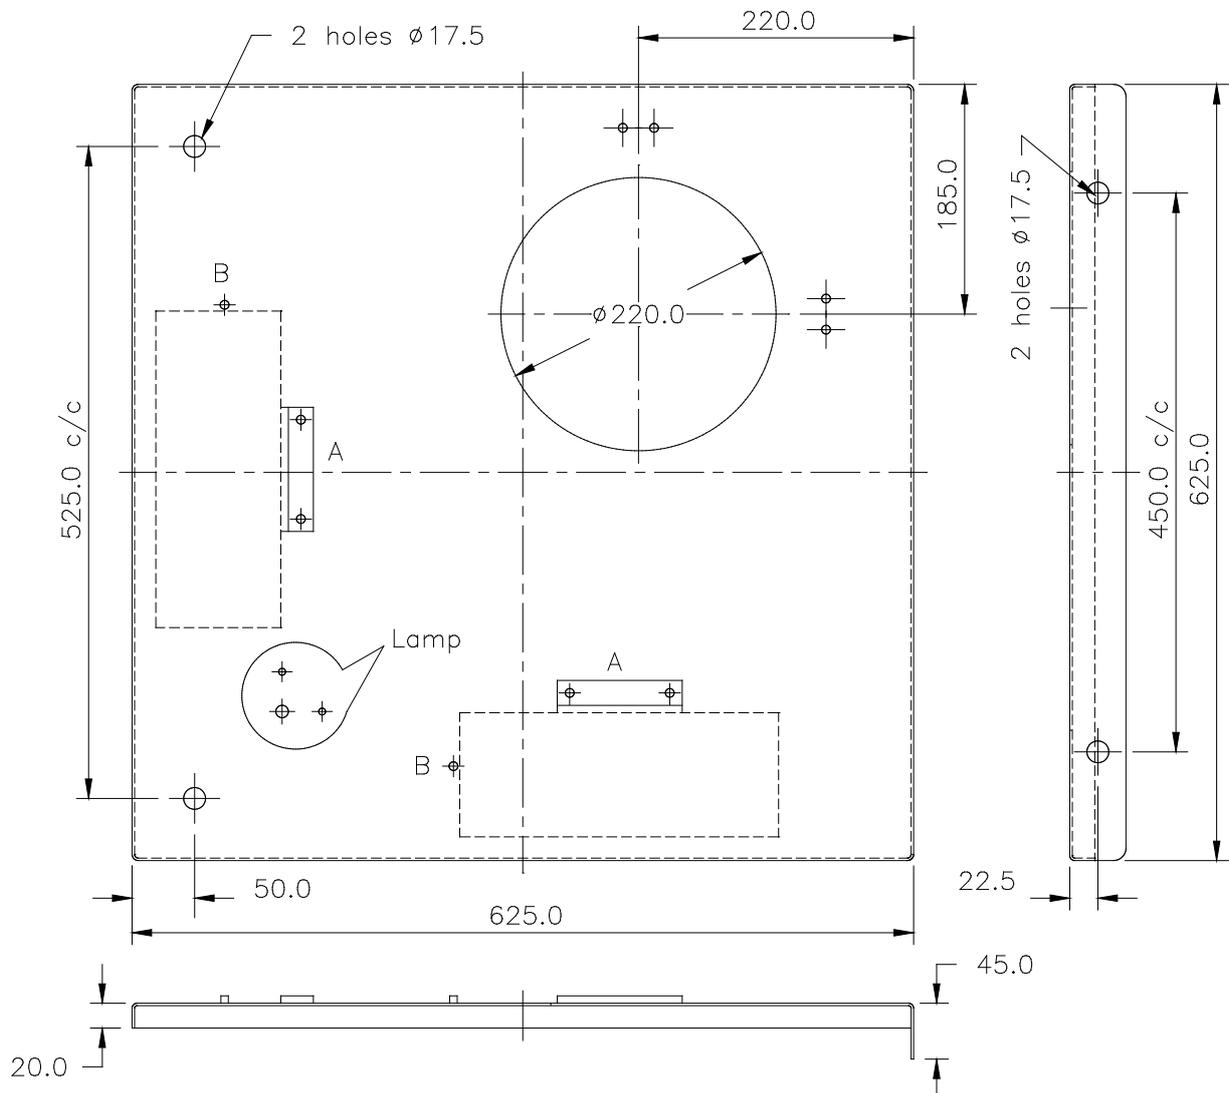

Figure 2-2
Figure 2-1 provides cross sectional layout of the normal plumb line. Figure 2-2 contains details of fixing observation table and mounting telescopes and reference plumbs.
The traveling telescopes are packed in a specially designed case. Position the two telescopes on the observation table such that the front edge butts with the telescope reference plate (A) and the left edge touches the reference pin (B). Refer to figure 2-2.
Figure 3.1 provides the general cross-sectional layout of the inverted plumb line. Figure 2.2 contains the details for fixing the observation table and mounting the telescopes and reference plumbs.